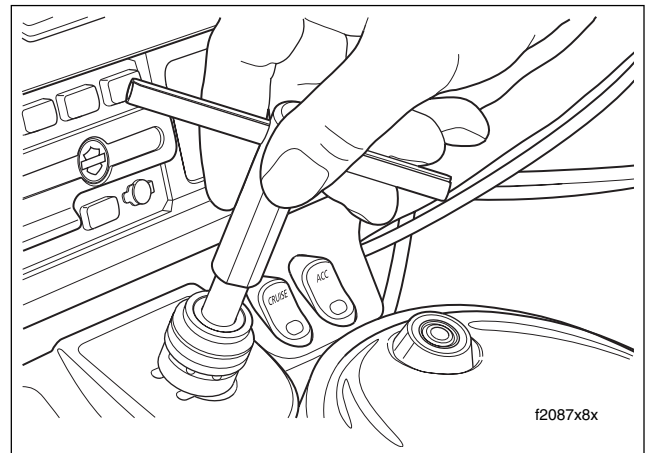

Figure 8-77. Rotate Alignment Tool Without Bottoming
- b. Remove knob and insert alignment tool so that the bottom of the handle is approximately 1/2-3/4 inch (12.7-19.1 mm) from the top of the threaded post, and then hold. See Figure 8-77.